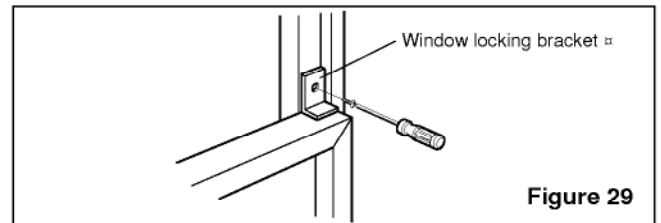

Figure 29
12. Attach the window locking bracket  $\times$  with a type C screw. (See Fig. 29)